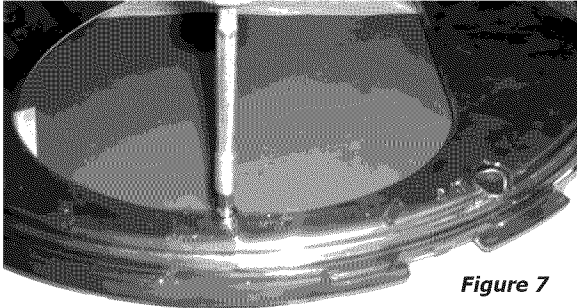

Figure 7
- 8 Remove lens locating screw. (Figure 7)